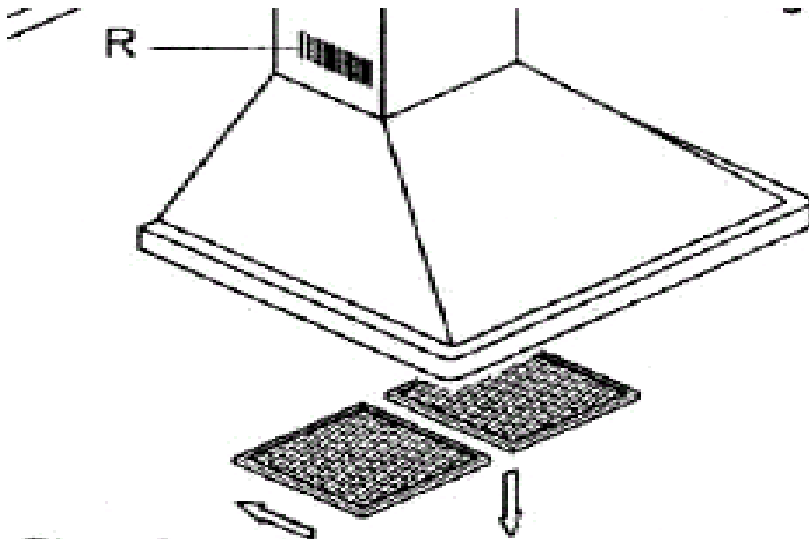

Fig. 2
- ✓ Remove the metal anti-grease filters (see Figure 2 below) and find the old bulb located in the light fixture up inside the exposed canopy. Change the halogen bulb using only suitable spares.